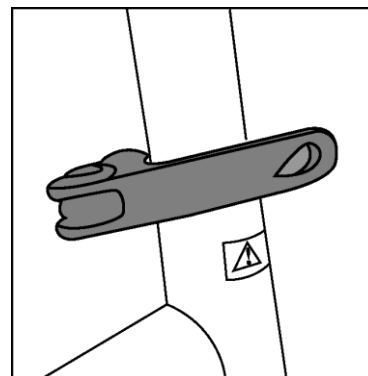

Figure 2: Handlebar or saddle clamp
- **Handlebar and seat clamp: see figure2.** These clamps allow you to set the saddle and handlebars to the correct height. Make sure these clamps are securely fastened.